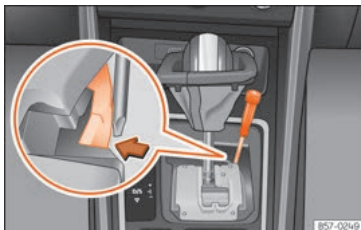

Fig. 57 Selector lever: manual release from position P.
- Using a screwdriver, press and hold the yellow unlocking tab sideways » » **Fig. 57**.
- Now press the interlock button on the selector lever (A) and move the selector lever to position N.